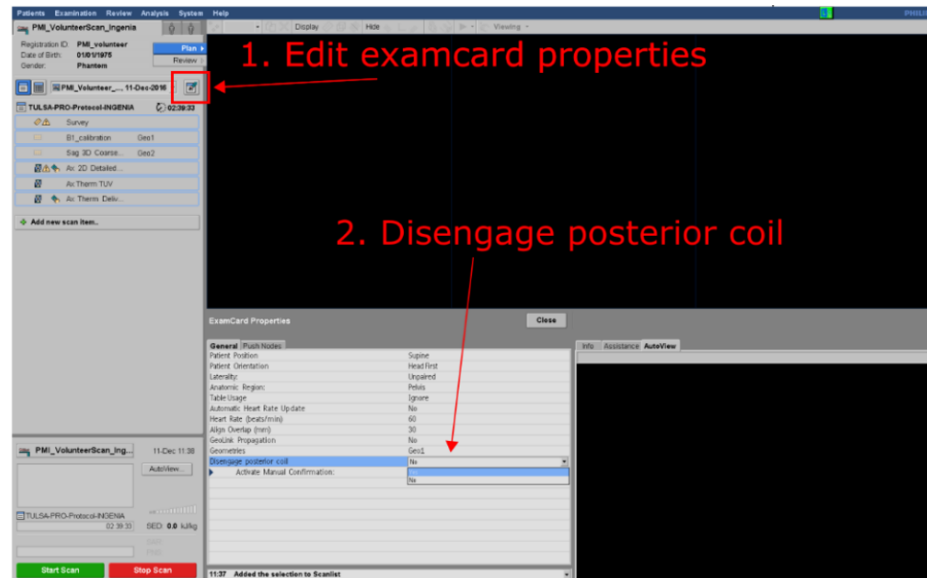

Figure 5: Setting 'Disengage posterior coil' to 'Yes'
3. If your TULSA-PRO® installation uses a TULSA-PRO® Coil Holder, it is very important to disengage the posterior coil, edit the ExamCard properties, and change the “Disengage posterior coil” from **No** to **Yes** (*Figure 5*).